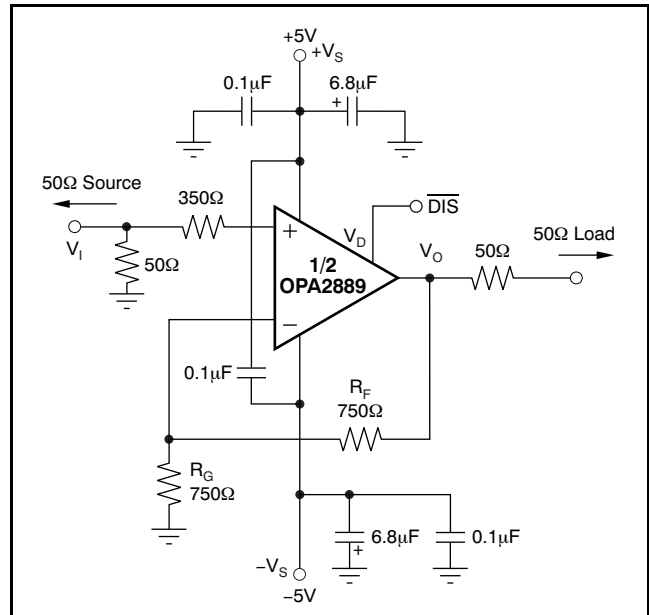
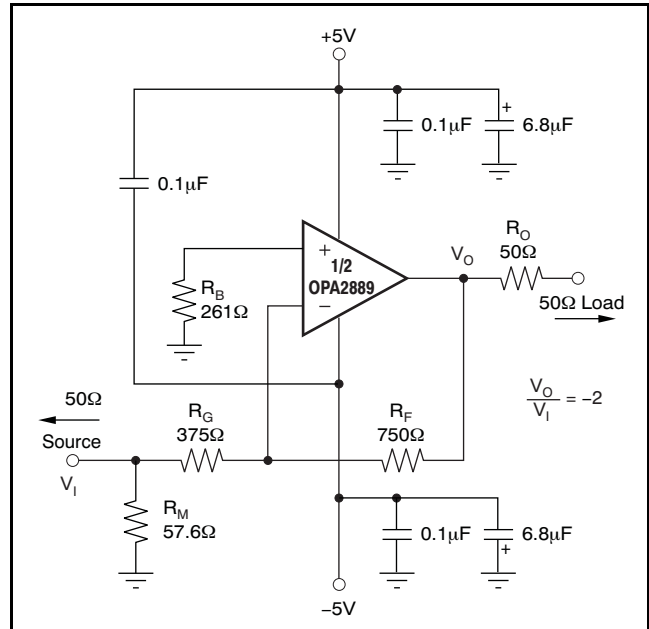

Figure 50. DC-Coupled, G = +2, Bipolar Supply, Specification and Test Circuit
Figure 60. Gain of $-2V/V$ Example Circuit
At $T_A = +25^\circ C$, $G = +2V/V$, $R_F = 750\Omega$, and $R_L = 100\Omega$, unless otherwise noted. See Figure 50.
Figure 50 shows the dc-coupled, gain of +2V/V, dual power-supply circuit configuration used as the basis of the ±5V Electrical Characteristics and ±5V Typical Characteristics. This illustration is for one channel; the other channel is connected similarly. For test purposes, the input impedance is set to 50Ω with a resistor to ground and the output impedance is set to 100Ω. Voltage swings reported in the Electrical Characteristics are taken directly at the input and output pins, while output powers (dBm) are at the matched 50Ω load. For the circuit of Figure 50, the total effective load will be 100Ω || 1.5kΩ. The disable control line (MSOP-10 package only) is typically left open for normal amplifier operation. Two optional components are included in Figure 50. An additional resistor (350Ω) is included in series with the noninverting input. Combined with the 25Ω dc source resistance looking back towards the signal generator, this resistor gives an input bias current cancelling resistance that matches the 375Ω source resistance seen at the inverting input (see the DC Accuracy and Offset Control section). In addition to the usual power-supply decoupling capacitors to ground, a 0.1μF capacitor is included between the two power-supply pins. In practical printed circuit board (PCB) layouts, this optional-added capacitor typically improves the 2nd-harmonic distortion performance by 3dB to 6dB.
A good rule of thumb is to target the parallel combination of R_F and R_G (see Figure 50) to be less than approximately 400 Ω . The combined impedance $R_F \parallel R_G$ interacts with the inverting input capacitance, placing an additional pole in the feedback network and thus, a zero in the forward response. Assuming a 2pF total parasitic on the inverting node, holding $R_F \parallel R_G < 400\Omega$ keeps this pole above 160MHz. By itself, this constraint implies that the feedback resistor R_F can increase to several k Ω at high gains. This increase in resistor size is acceptable as long as the pole formed by R_F and any parasitic capacitance appearing in parallel is kept out of the frequency range of interest.
Voltage-feedback op amps exhibit decreasing closed-loop bandwidth as the signal gain increases. In theory, this relationship is described by the Gain Bandwidth Product (GBP) shown in the Electrical Characteristics. Ideally, dividing GBP by the noninverting signal gain (also called the Noise Gain, or NG) predicts the closed-loop bandwidth. In practice, this principle only holds true when the phase margin approaches 90°, as it does in high gain configurations. At low gains (increased feedback factors), most amplifiers exhibit a more complex response with lower phase margin. The OPA2889 is compensated to give a slightly peaked response in a noninverting gain of 2V/V (see Figure 50). This compensation results in a typical gain of +2V/V bandwidth of 60MHz, far exceeding that predicted by dividing the 75MHz GBP by 2. Increasing the gain causes the phase margin to approach 90° and the bandwidth to more closely approach the predicted value of (GBP/NG). At a gain of +10, the 8MHz bandwidth shown in the Electrical Characteristics agrees closely with that predicted using the simple formula and the typical GBP of 75MHz.
The frequency response in a gain of +2V/V may be modified to achieve exceptional flatness simply by increasing the noise gain to 2.5V/V. One way to modify the response without affecting the +2V/V signal gain, is to add a 750 Ω resistor across the two inputs, as shown in the circuit of Figure 50. A similar technique may be used to reduce peaking in unity-gain (voltage follower) applications. For example, by using a 750 Ω feedback resistor along
The OPA2889 is a general-purpose, wideband, voltage-feedback op amp; therefore, all of the familiar op amp application circuits are available to the designer. Inverting operation is one of the more common requirements and offers several performance benefits. See Figure 60 for a typical inverting configuration where the I/O impedances and signal gain from Figure 50 are retained in an inverting circuit configuration.
In the inverting configuration, three key design considerations must be noted. The first is that the gain resistor (R_G) becomes part of the signal channel input impedance. If input impedance matching is desired (which is beneficial whenever the signal is coupled through a cable, twisted-pair, long PCB trace, or other transmission line conductor), R_G may be set equal to the required termination value and R_F adjusted to give the desired gain. This consideration is the simplest approach and results in optimum bandwidth and noise performance. However, at low inverting gains, the resultant feedback resistor value can present a significant load to the amplifier output. For an inverting gain of $-2V/V$, setting R_G to 50Ω for input matching eliminates the need for R_M but requires a 100Ω feedback resistor. This approach has the interesting advantage that the noise gain becomes equal to $2V/V$ for a 50Ω source impedance—the same as the noninverting circuits considered in Figure 60. The amplifier output, however, now sees the 100Ω feedback resistor in parallel with the external load. In general, the feedback resistor should be limited to the 200Ω to 1.5kΩ range. In this case, it is preferable to increase both the R_F and R_G values (see Figure 60), and then achieve the input matching impedance with a third resistor (R_M) to ground. The total input impedance becomes the parallel combination of R_G and R_M .
The second major consideration, touched on in the previous paragraph, is that the signal source impedance becomes part of the noise gain equation and influences the bandwidth. For the example in Figure 60, the R_M value combined in parallel with the external 50Ω source impedance yields an effective source driving impedance of $50\Omega \parallel 57.6\Omega = 26.7\Omega$. This impedance is added in series with R_G for calculating the noise gain (NG). The resulting NG is $2.86V/V$ for Figure 60, as opposed to only $2V/V$ if R_M could be eliminated as discussed above. Therefore, the bandwidth is slightly lower for the gain of $-2V/V$ circuit of Figure 60 than for the gain of $+2V/V$ circuit of Figure 50.
The third important consideration in inverting amplifier design is setting the bias current cancellation resistor on the noninverting input (R_B). If this resistor is set equal to the total dc resistance looking out of the inverting node, the output dc error, as a result of the input bias currents, is reduced to $(\text{Input Offset Current}) \times R_F$. If the 50Ω source impedance is dc-coupled in Figure 60, the total resistance to ground on the inverting input is 402Ω.
The OPA2889 provides good distortion performance into a 200Ω load on $\pm 5V$ supplies. Relative to alternative solutions, it provides exceptional performance into lighter loads and/or operating on a single +5V supply. Generally, until the fundamental signal reaches very high frequency or power levels, the 2nd-harmonic dominates the distortion with a negligible 3rd-harmonic component. Focusing then on the 2nd-harmonic, increasing the load impedance improves distortion directly. Remember that the total load includes the feedback network; in the noninverting configuration (see Figure 50), this total is the sum of $R_F + R_G$, while in the inverting configuration it is just R_F . Also, providing an additional supply-decoupling capacitor ($0.1\mu F$) between the supply pins (for bipolar operation) improves the 2nd-order distortion slightly (3dB to 6dB). Operating differentially also lowers 2nd-harmonic distortion terms (see the plot on the front page).
Evaluating these two equations for the OPA2889 circuit and component values (see Figure 50) gives a total output spot noise voltage of 18.2nV/√Hz and a total equivalent input spot noise voltage of 9.1nV/√Hz. This total includes the noise added by the bias current cancellation resistor (350Ω) on the noninverting input. This total input-referred spot noise voltage is slightly higher than the 8nV/√Hz specification for the op amp voltage noise alone. This result is the case as long as the impedances appearing at each op amp input are limited to the
previously recommend maximum value of 400Ω. Keeping both ($R_F \parallel R_G$) and the noninverting input source impedance less than 400Ω satisfies both noise and frequency response flatness considerations. Because the resistor-induced noise is relatively negligible, additional capacitive decoupling across the bias current cancellation resistor (R_B) for the inverting op amp configuration of Figure 60 is not required.
The balanced input stage of a wideband voltage-feedback op amp allows good output dc accuracy in a wide variety of applications. The power-supply current trim for the OPA2889 gives even tighter control than comparable amplifiers. Although the high-speed input stage does require relatively low $\pm 0.75\mu\text{A}$ input bias current, the close matching between them may be used to reduce the output dc error caused by this current. The total output offset voltage may be reduced by matching the dc source resistances appearing at the two inputs. This matching reduces the output dc error resulting from the input bias currents to the offset current times the feedback resistor. Evaluating the configuration of Figure 50, and using worst-case +25°C input offset voltage and current specifications, gives a worst-case output offset voltage equal to: